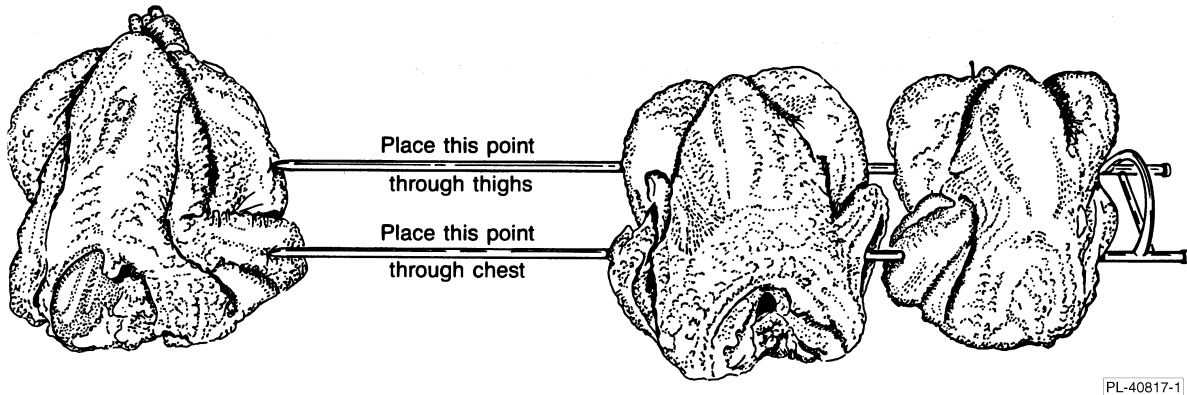

Fig. 5
1. Skewer spits into whole poultry so that point goes through the chest and thighs (Fig. 5).